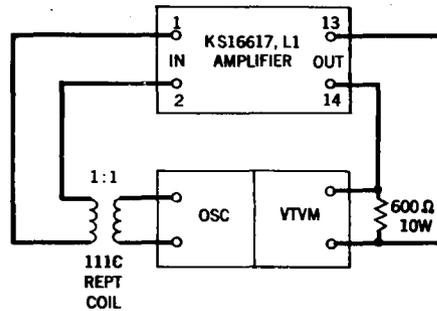

Fig. 1 — Test Setup for High-Level Channel Gain-Frequency Test
5.01 The test setup for measuring the high-level channel is shown in Fig. 1. Chart I outlines the step procedure to be followed when making the test. The oscillator output in Step 6 of the procedure is measured to insure that the amplifier will deliver the proper output with the minimum input voltage requirement. The procedure may vary slightly depending on the testing equipment used.
2	Connect circuit as shown in Fig. 1.